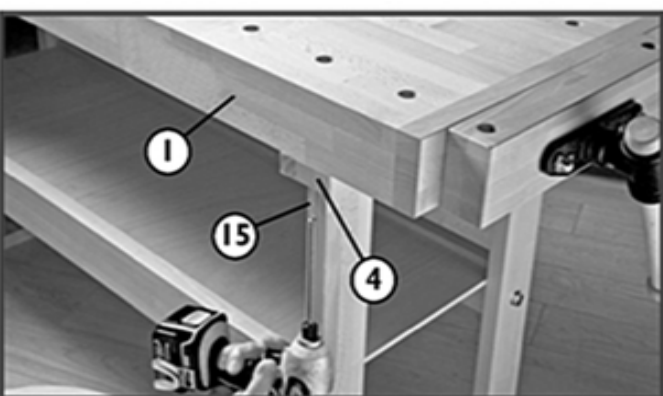

Fig. 5
- Place the Bench Top (1) so it rests in place on the two leg assemblies. Attach to the Top Rail Supports (4) with four Wood screws 5x50mm (15), one in each corner (**Fig. 5**).